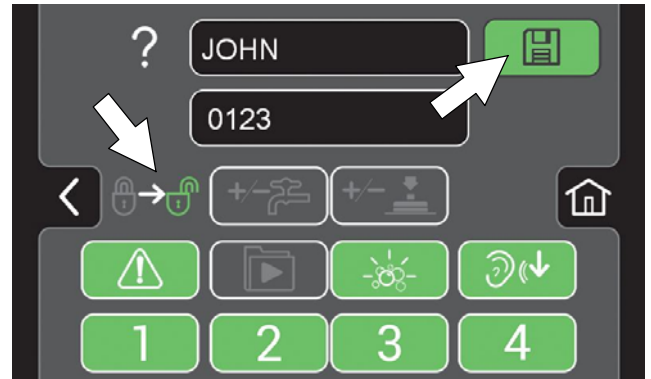

FIG. 174
- Select the controls the new user should only have access to use (Figure 174). Green represents unlocked controls and gray represents locked controls. Press the flashing save button to save new profile.